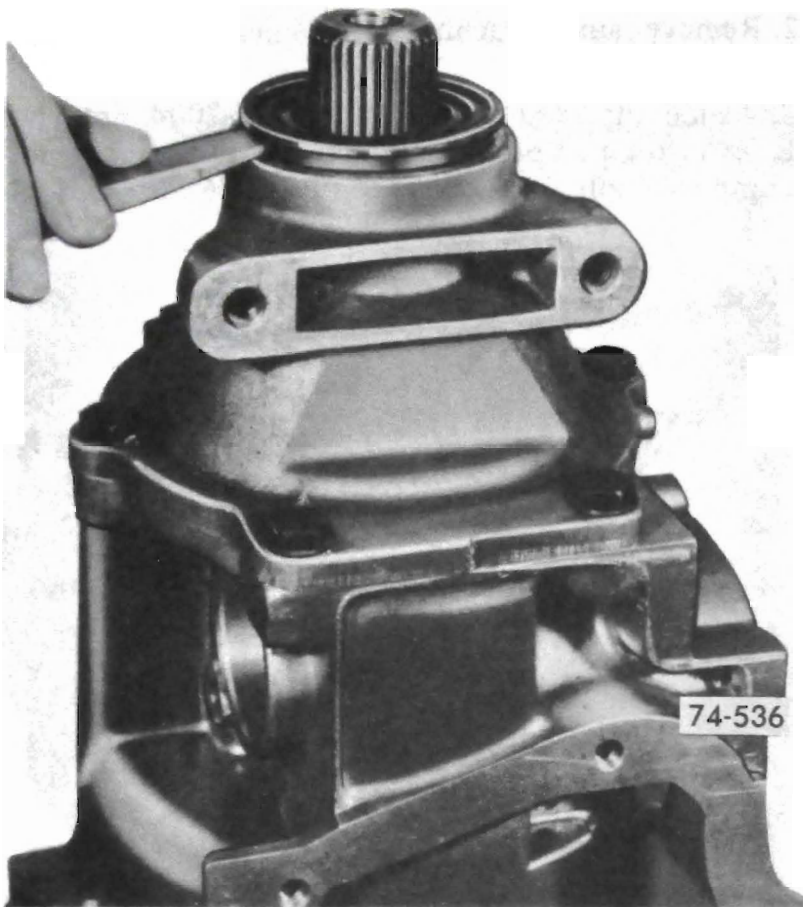

Figure 76-81
1. If necessary to replace, pry the rear oil seal from the extension housing. See Figure 76-81.